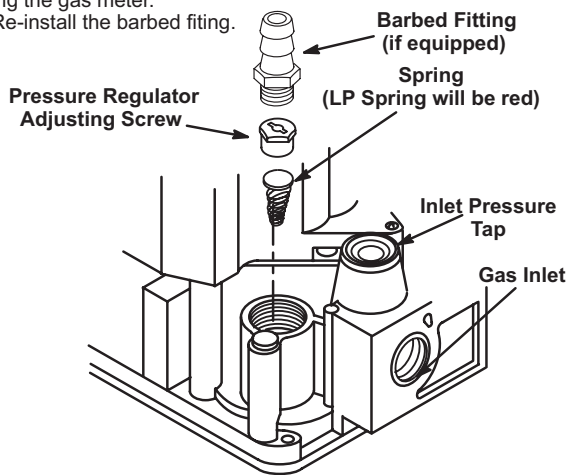

Figure 8. Conversion of Gas Valve
6. Replace the gas valve regulator spring. See Figure 8.